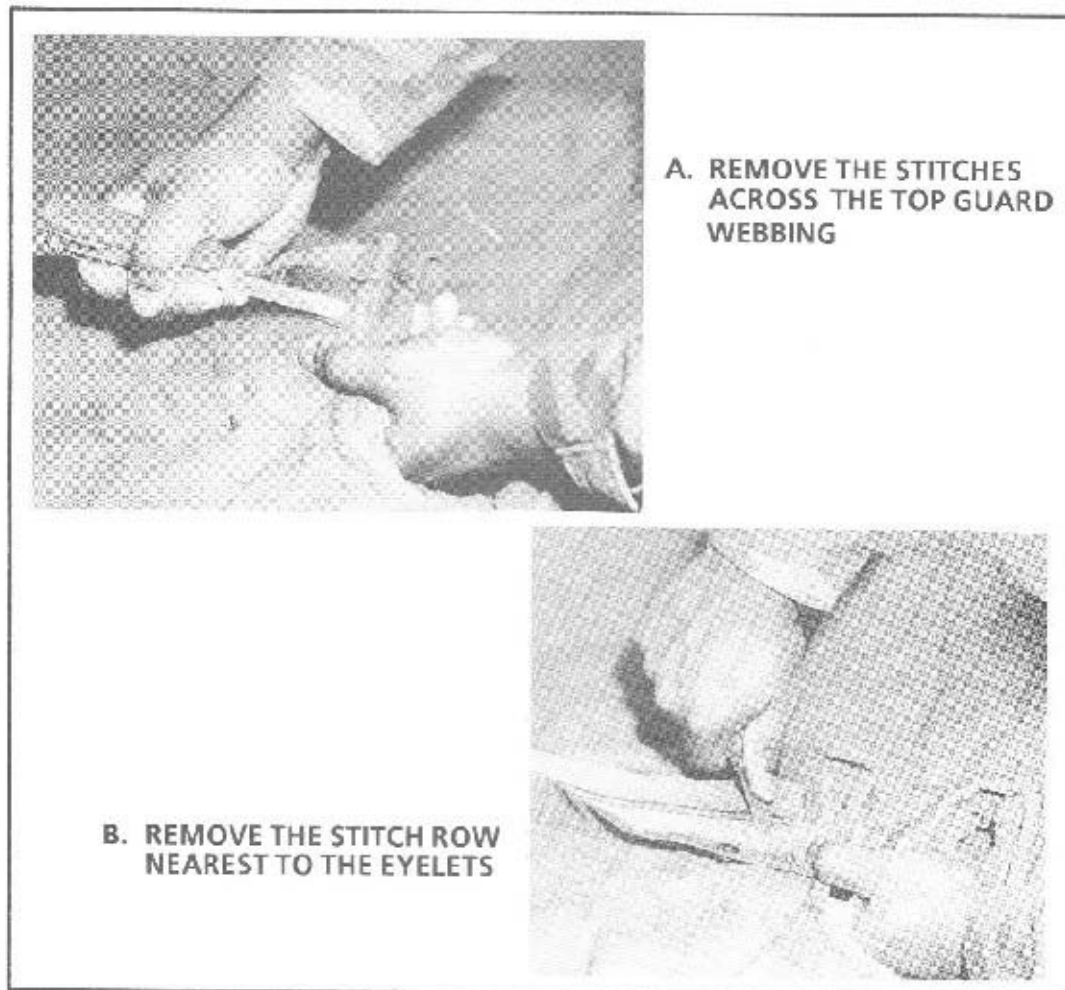
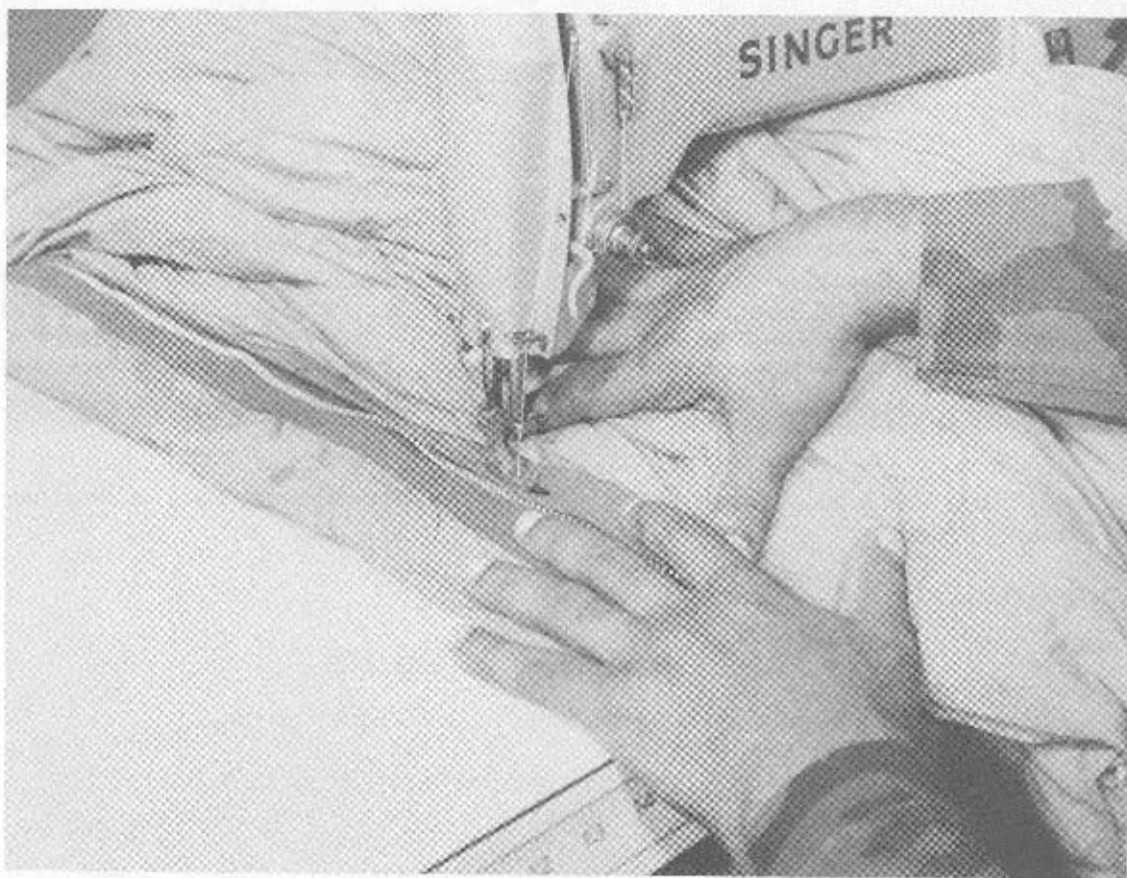

Figure 3-80
Figure 3-81
- b. Place the slide fastener tape parallel to the stitching, which fastens the guard webbing in place. (See Figure 3-80 and Figure 3-81)